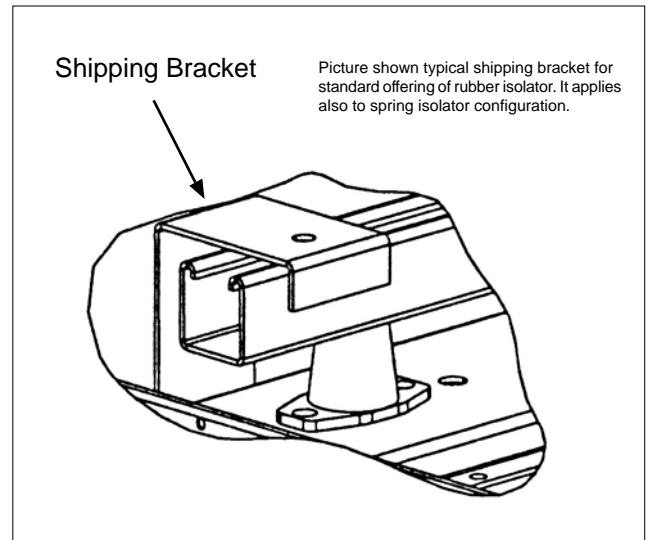

Fig. 2 Shipping Bracket
- e) Do not remove the shipping bracket (Refer to Fig. 2) that are supplied to prevent the fan housing and motor base from moving during transit. These shipping bracket should only be removed after the air handling unit is positioned and just immediately after the fan motor and drive is installed.